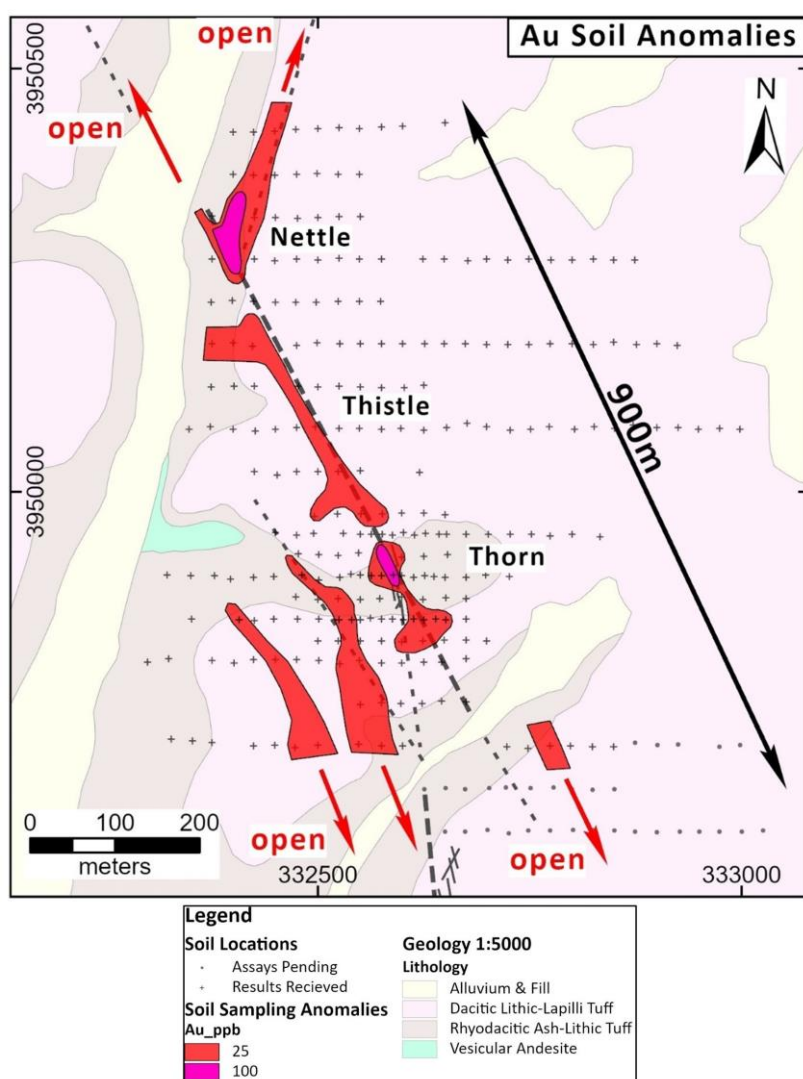

Figure 1: Soil sampling results, Au only. See Figure 5 for full results.
- Soil sampling program completed over the northern Golden Surprise trend has confirmed the Au-Ag mineralised zone extends at least one kilometre in strike length and remains open (**Figure 1**).